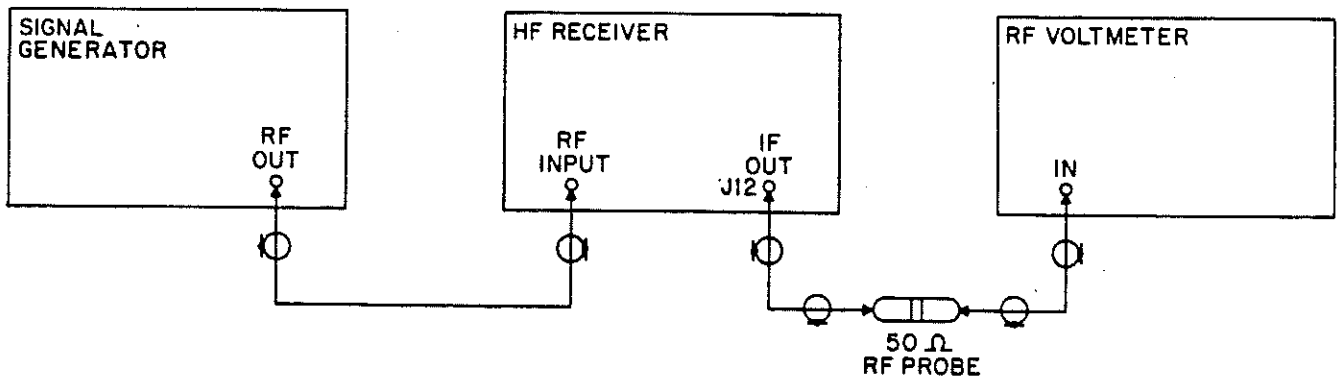

Figure 4-6. 455 kHz Amplifier/AM Detector Gain Adjustment, Test Setup
1. Connect the test equipment as shown in Figure 4-6.